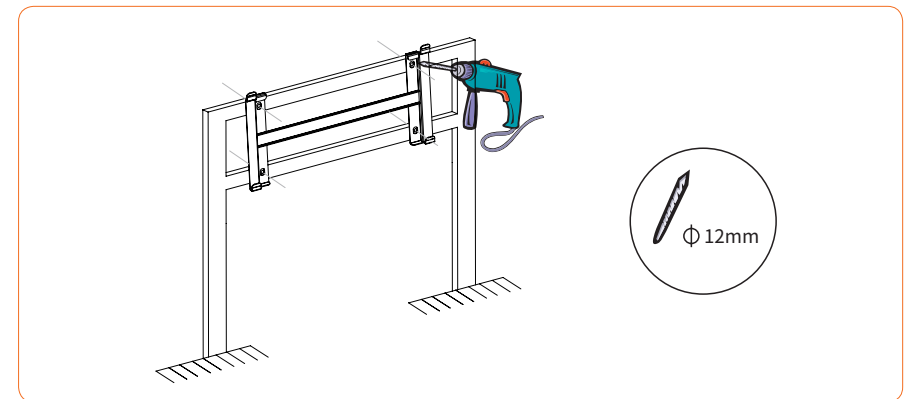

Figure 4-5 Mark the hole position
- ① Use the inverter back bracket as the template to mark the position of 4 holes on installation bracket.
- ② Use an electrical drill with 12mm diameter bit to drill 4 holes on the installation bracket. See Figure 4-5 for details: